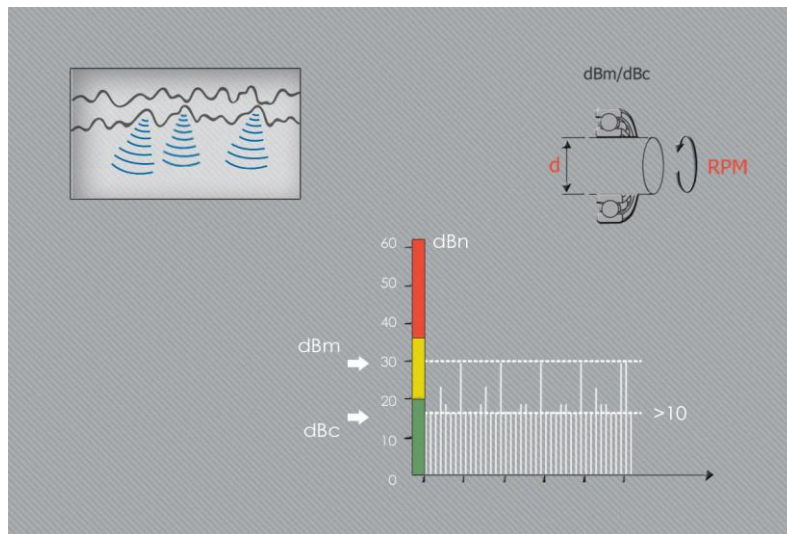

Figure 4-10. Bearing damage at an early stage of development.
b) Bearing damage at an early stage of development (Figure 4-10).